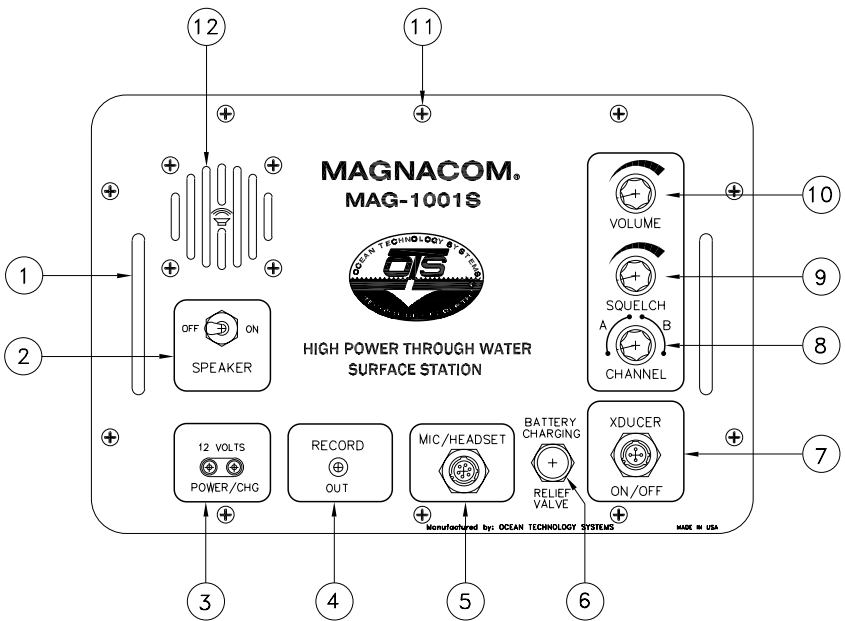
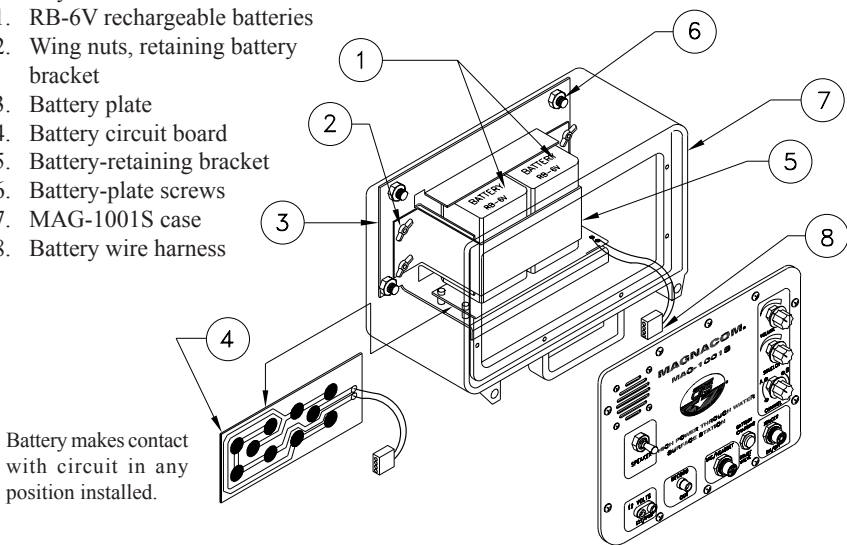
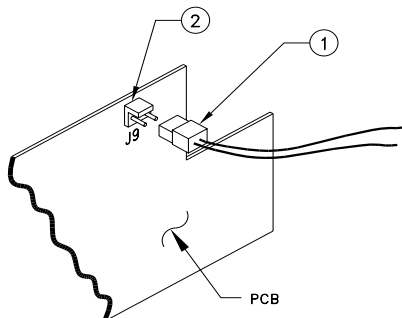

Figure 1. Layout of MAG-1001S Panel
Figure 2. RB-6V Battery Installation
Figure 3. Battery Wire Harness Connection
Refer to Figure 1 by item number.
1. Locate and remove the ten screws found on the front panel (Fig. 1, #11). Do not remove the front-panel screws located around the front-panel speaker grill (Fig. 1, #12).
3. Remove and set aside the wing nuts (Fig. 2, #2).
4. Remove and set aside the battery-retaining bracket (Fig. 2, #5).
5. Insert battery w/ the battery springs facing toward the battery circuit board (Fig. 2, #4). Ensure they are firmly seated in the bottom of the battery bracket housing.
7. Ensure the wire harness (Fig. 3, #1) is plugged into connector J9 (Fig. 3, #2).
8. While the unit is open, you may want to verify that the four screws securing the feet and battery plate assembly are tight (Fig. 2, #6).
NOTE: The silver pads located on the battery circuit board (Fig. 2, #4) are spaced to accept the spring contacts found on a rechargeable lantern battery. The configuration ensures springs make contact at any axis along which the batteries are installed. The spring-contact circuit board is located on one end of the battery storage housing. The spring contacts of the batteries must be in contact with this board in order for the system to work. Installing the batteries in the wrong direction may cause damage to the unit (the batteries and/or the MAG-1001S will not operate).
The MAG-1001S comes with either two RB-6V batteries or a lithium battery. When replacing the batteries per the instructions found in Section 2.1, ensure the power harness in the battery compartment (Fig. 2, #8) is connected to J9 (Fig. 3, #2) on the circuit board. This connection channels the battery charger's current to the batteries.
The external receptacle (Fig. 1, #3) provides an easy terminal for a marine or automotive 12-volt DC source. This terminal can also be used with any external power source providing 12 volts and a minimum of 10 amps capacity. This receptacle is also used for charging the internal chargeable batteries.
Before charging the batteries, verify they are the correct rechargeable batteries, the vent is open (Fig. 1, #6), and the internal plug is connected to the proper connector (Fig. 3, #2). Do not charge alkaline or heavy-duty batteries—otherwise, damage to the MAG-1001S, an explosion, and/or injury may occur. Before powering up the MAG-1001S, always wait a minimum of 15 minutes for any gasses expelled from the charged batteries to dissipate.
3. Open the cover of the MAG-1001S, and connect the transducer cable to the front panel (Fig. 1, #7). Connecting the transducer cable powers up the MAG-1001S. When not using the MAG-1001S, disconnect the transducer cable to conserve battery power.
8. Connect the hand-held microphone or a headset to the microphone receptacle (Fig. 1, #5).